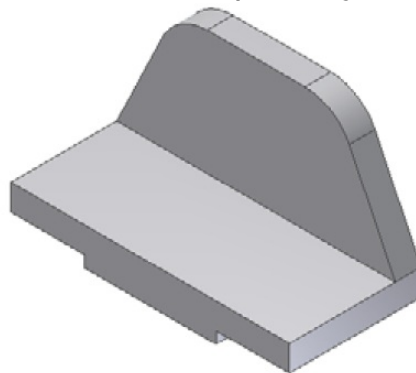

Figure 6-108 Model after creating the join feature
- Define a new sketch plane on the back face of the base feature and create the join feature, refer to Figure 6-108.
2. Exit the Sketching environment and then extrude the sketch to a distance of 20 mm toward the front of the base feature, as shown in Figure 6-108.